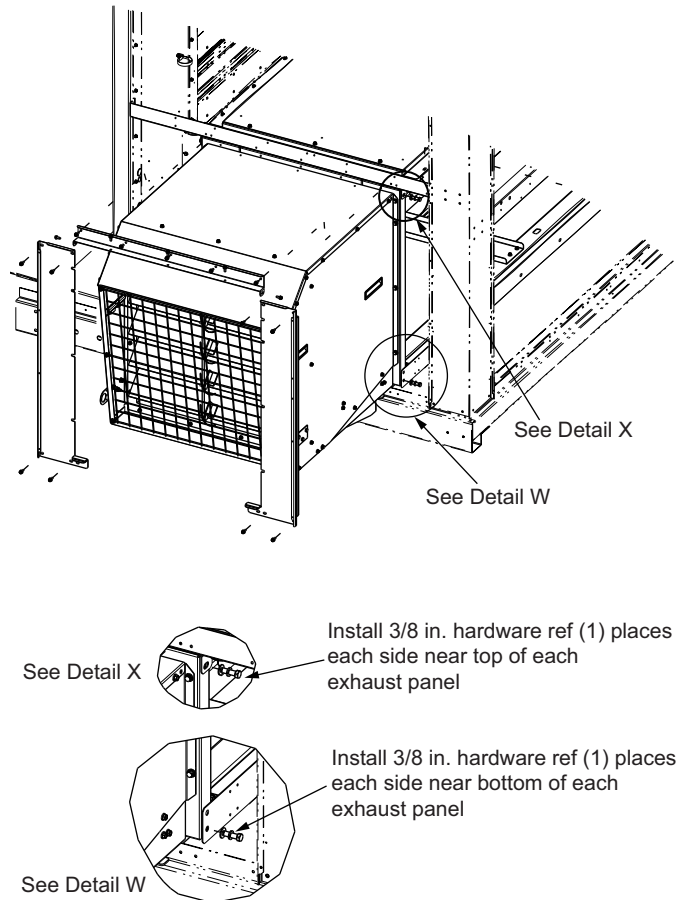

Fig. 3 — Power Exhaust Module (Side Access)
Remove the side bottom panels to gain access to the return air section. Retain all fasteners for reinstallation. See Fig. 3 for panel access locations.
- 1) Remove the top and side panels securing the relief hood assembly. Retain all fasteners for reinstallation. See Fig. 3 for panel access locations.
- 2) Remove the side-mounted power exhaust assembly, as required, to fully access the return air section. See Fig. 3 for panel access locations.
16. Reinstall the side panels and/or side-mounted power exhaust assembly using the retained fasteners. See Fig. 3 for power exhaust assembly example.